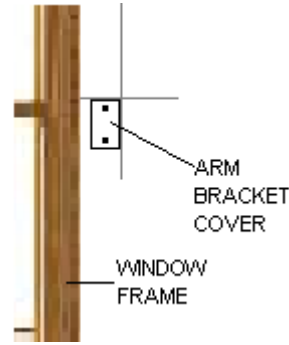

Figure 5:
14. Align the Arm Bracket Cover within the horizontal and vertical as shown in Figure 5. Ensure the Cover is plumb and mark both hole locations. For wood, vinyl, stucco or aluminum siding, remove the Arm Bracket Cover and pre-drill both hole locations with a 1/8" drill bit. For Brick or concrete walls, using a 1/4" masonry drill bit, drill holes approximately 1 1/2" deep. Insert plastic wall anchors into holes, and using a hammer, tap flush with the surface of the concrete. Repeat for the other side of awning.